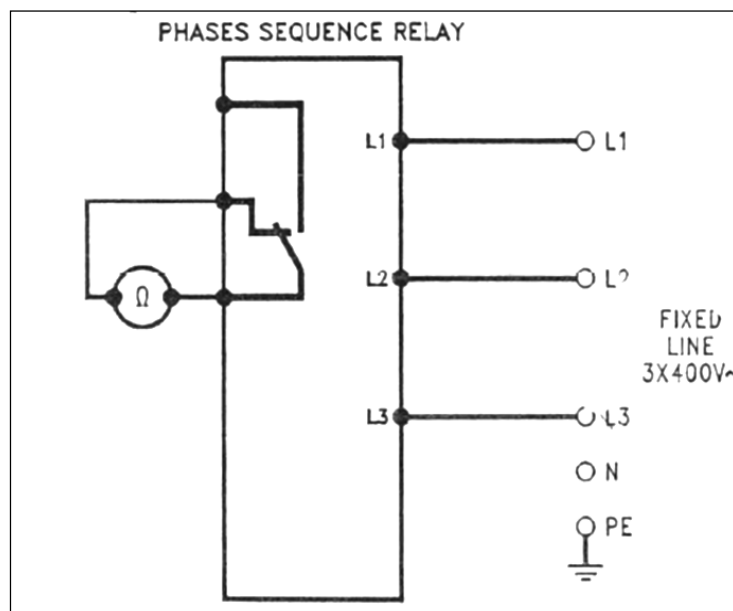

Figure 2.6 Connection diagram for testing a sequence relay, instant time phase lack in a three-phase line.
1. Follow the electrical diagram of figure 2.6.